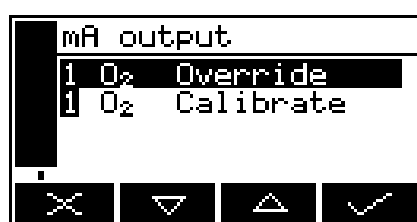

Figure 28 - The mA output service screen
4. When the mA output has been correctly calibrated, press the  soft key: the mA output service screen (Figure 28) will then be displayed again.